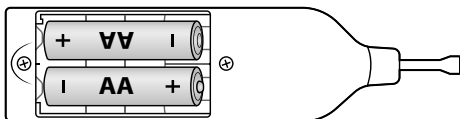

fig. 1
- ◆ Insert the batteries into the wax melter **1** as indicated in the battery compartment **4** (see *fig. 1*).